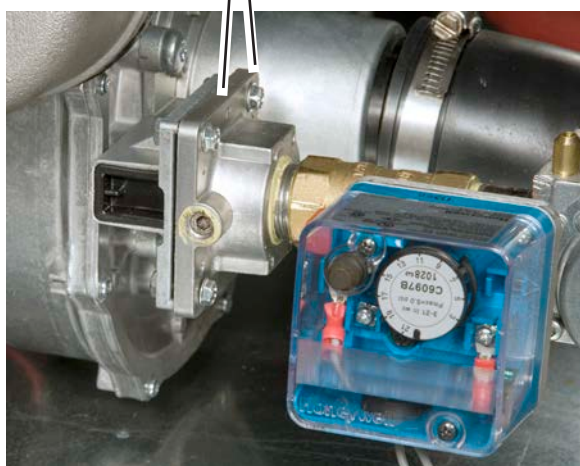

Fig. B11-4 - Undo the four screws at the left end of the assembly
7. On the left end of the assembly, remove the four bolts which attach the gas assembly to the blower. See Fig. B11-4. The 5/16" socket will fit the head of each bolt. Use the 3/8" socket on the nut on the other end.